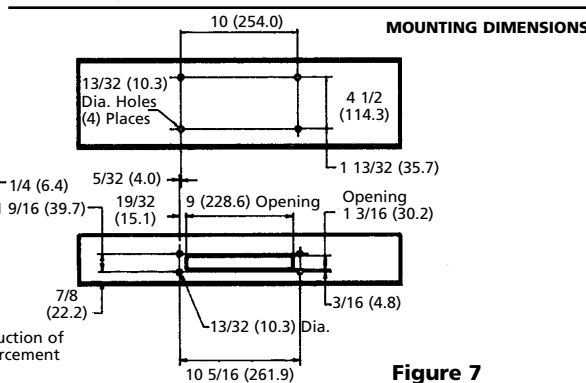
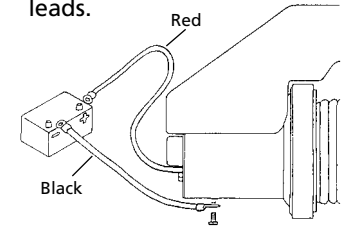

Figure 7
Figure 10
If a Superwinch mounting plate is not used, refer to Figure 7 for a guide to construct a mounting system.
2. Attach the long black color-coded wire to the motor case (see Figure 10). Mount the winch to the mounting kit base plate or to the mount that you designed (see Figure 7).